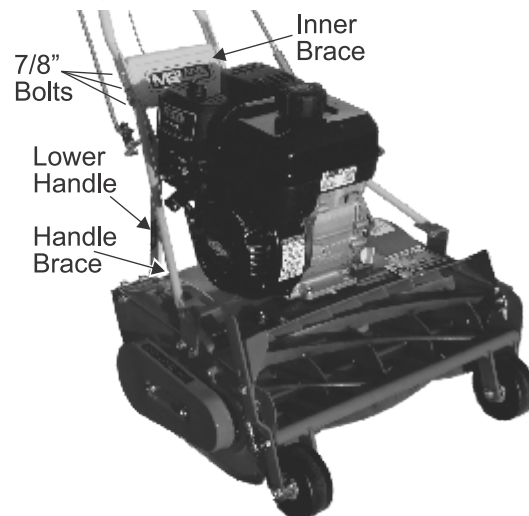

FIGURE 2: Tighten all six handle bolts and nuts **SECURELY**.
- E. install one nut on each bolt, then tighten the nuts **SECURELY** (see Figure 2).